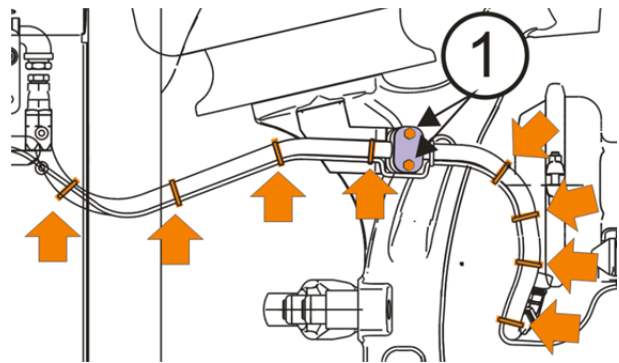
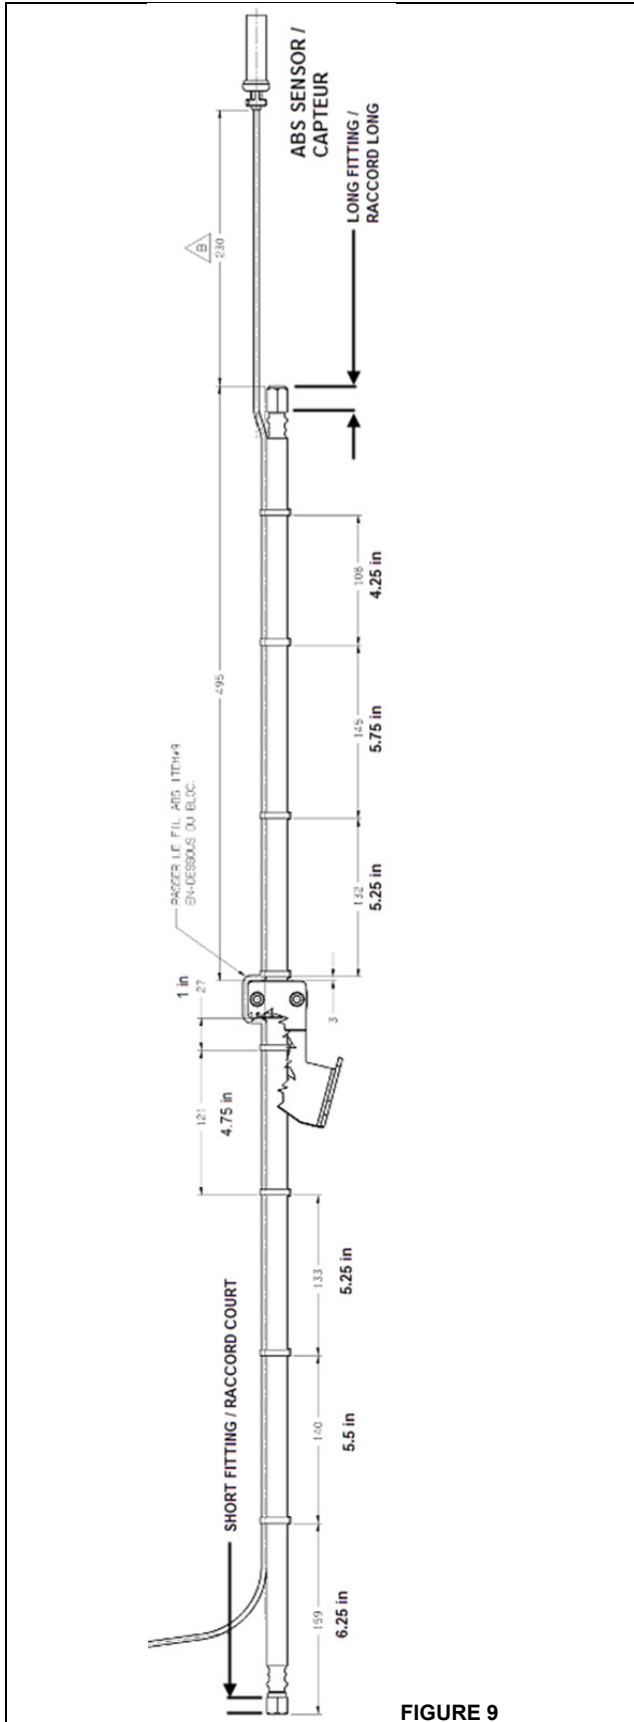

FIGURE 7
FIGURE 9
5. Reinstall the clamp (see figure 7).
7. Secure the ABS sensor wire to the hose using eight (8) nylon ties. Refer to figure 7 & figure 9 for the proper nylon tie locations.